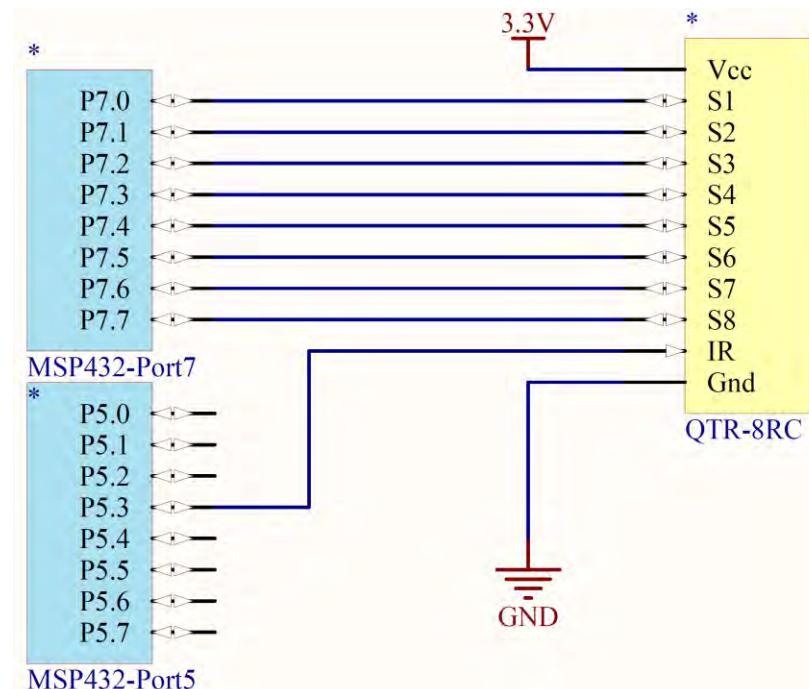

Figure 6. The 8-channel line sensor is interfaced to Ports 5 and 7. S0 (P7.0) is on the right, and S8 (P7.7) is on the left.
**You will implement this lab by connecting the QTR-8RC line sensor to the MSP432 LaunchPad as shown in Figure 6. Refer to the data sheet of the sensor for hook up instructions.**
Now that you understand how the sensor works, you will create a low-level software driver that measures all eight sensors at the same time. You will need to connect all 8 sensor inputs as shown in Figure 6. You will assume the MSP432 is running at 48 MHz clock. The initialization includes: